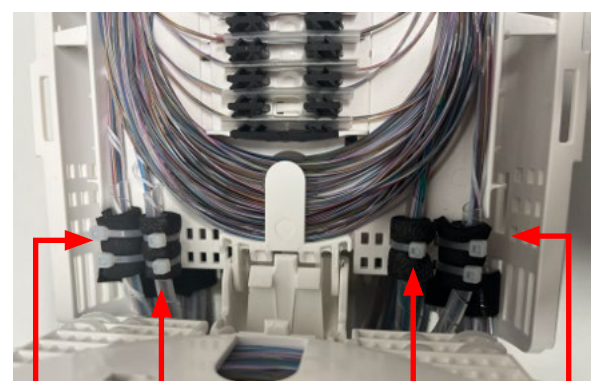

Figure 13
2. Attach the green binder group to the splice tray (right hand side) using foam and cable ties [figure 13].
3. Attach the white binder group to the bottom tray (left hand side) using foam and cable ties [figure 13].